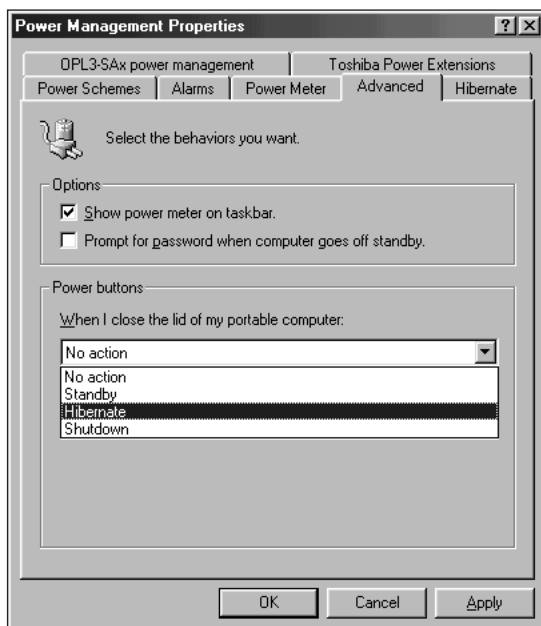

Figure 18-19 Choices of action when you close the lid of your notebook
3. Click the list arrow for “When I close the lid of my portable computer” and select **Hibernate**. See Figure 18-19.